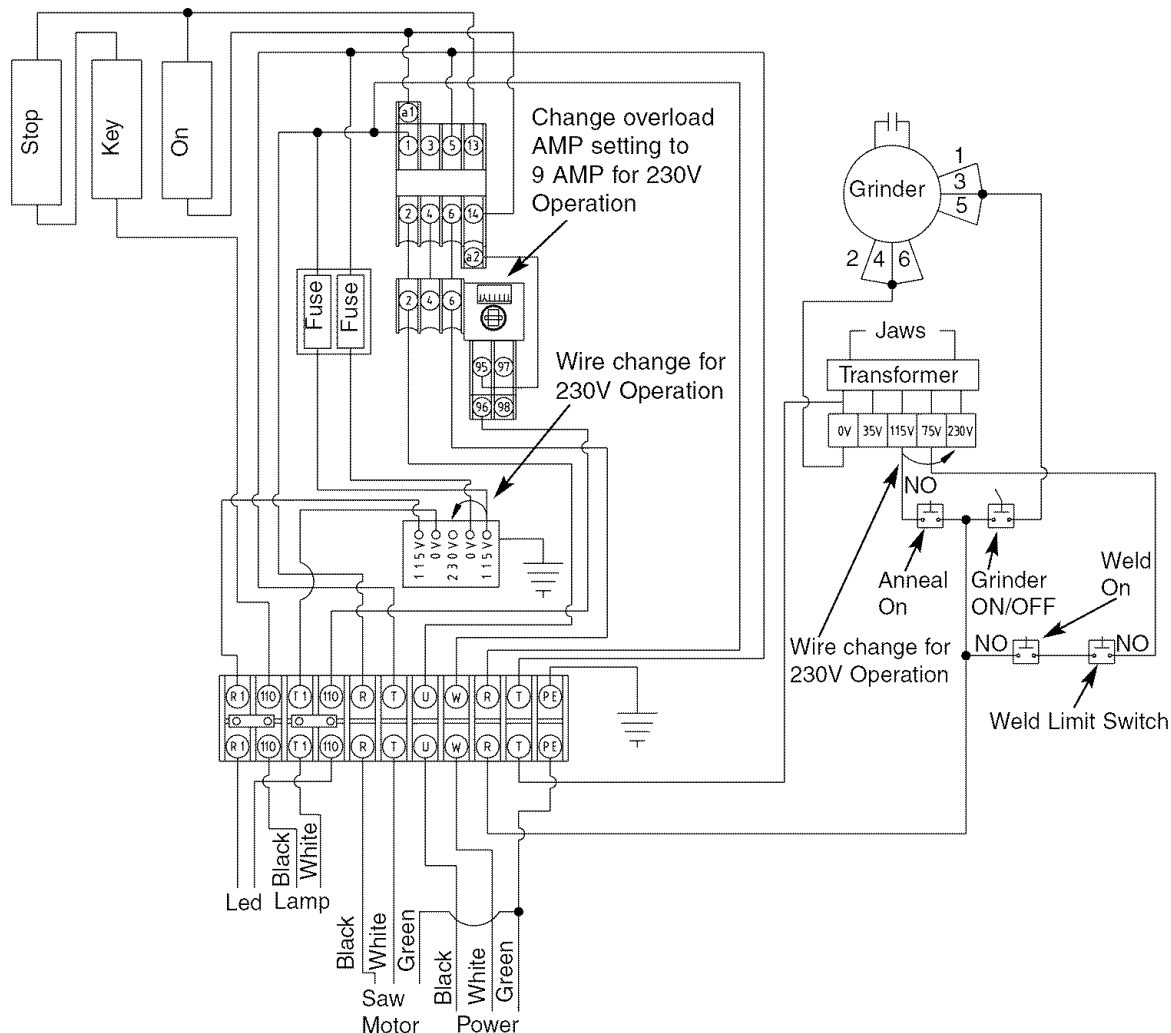

Figure 2 - Control Wiring Schematic
- Change wire from 115V terminal of transformer to the unused 230V terminal (See Figure 2).
- Change amperage setting on the thermal overload relay (See Figure 2).